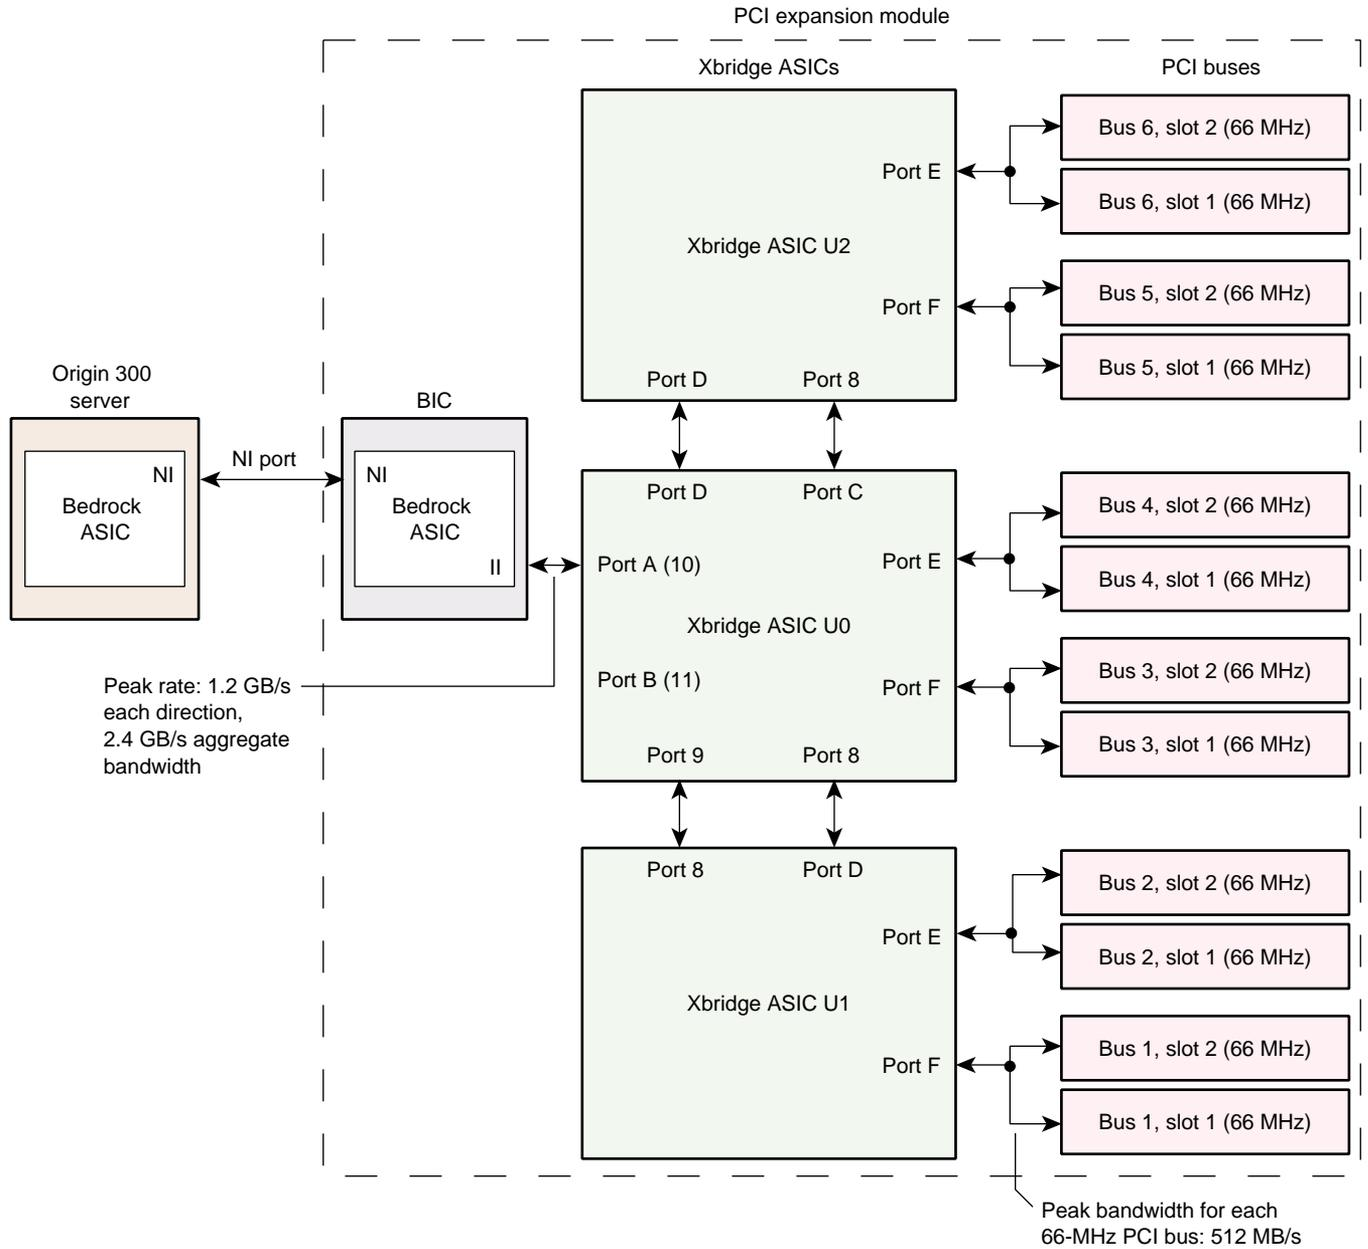

Figure 3-5 PCI Expansion Module Block Diagram
The Bedrock ASIC of the PCI expansion module also communicates with three 600-MHz Xbridge ASICs via its I/O interface (II) port. The Xbridge ASICs control the PCI buses (refer to Figure 3-5): Xbridge ASIC U0 is the interface between the Bedrock ASIC and the PCI slots of bus 3 and bus 4. Xbridge ASIC U0 is also the interface between the Bedrock ASIC and the Xbridge ASICs U1 and U2. Xbridge ASIC U1 controls bus 1 and bus 2, and Xbridge ASIC U2 controls bus 5 and bus 6.